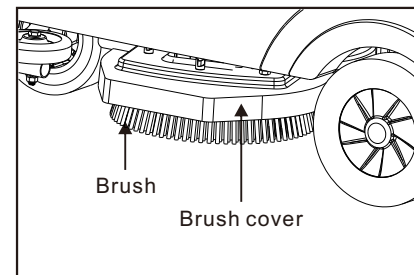

fig.6
1. Lift up the brush lever to ascend the brush cover. Then, push brushes under the brush cover to keep proper distance between them. Then, hold the brush to make the brush holder under the center of brush cover. After that, put down the brush on the floor vertically (fig.6).